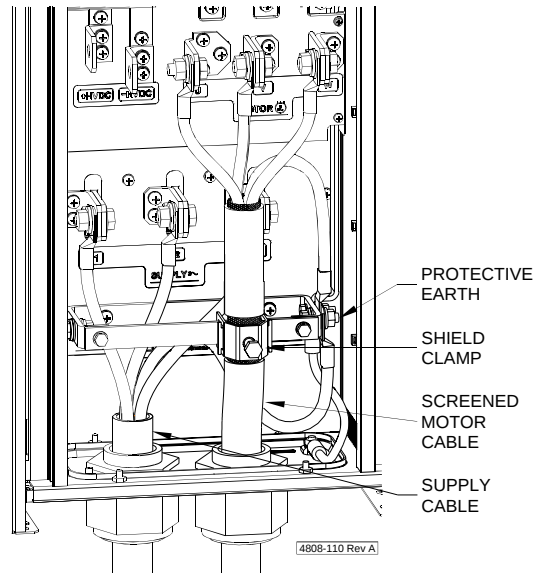

Figure 5.5: Ultradrive Elite Frame 4 Cable Configuration
- 4 The Microdrive Elite Series and Ultradrive Elite frame 4 are fitted with electromagnetic interference (EMI) filtering as standard. External supply side EMI filters are required for the Ultradrive Elite frames 5 to 7. To maximise the effectiveness of these filters, screened cable (minimum - neutral screen, steel conduit; preferred - copper tape and/or mesh) must be used on the Elite Series output. Bond the screen solidly to the Elite Series and motor chassis. Failure to use screened output cables may lead to disruption of other electronic equipment. The output cables should be run separately from the input cables, to reduce the chance of EMI cross-coupling between cables. Refer to Figures 5.5 to 5.7 for screen connection details.